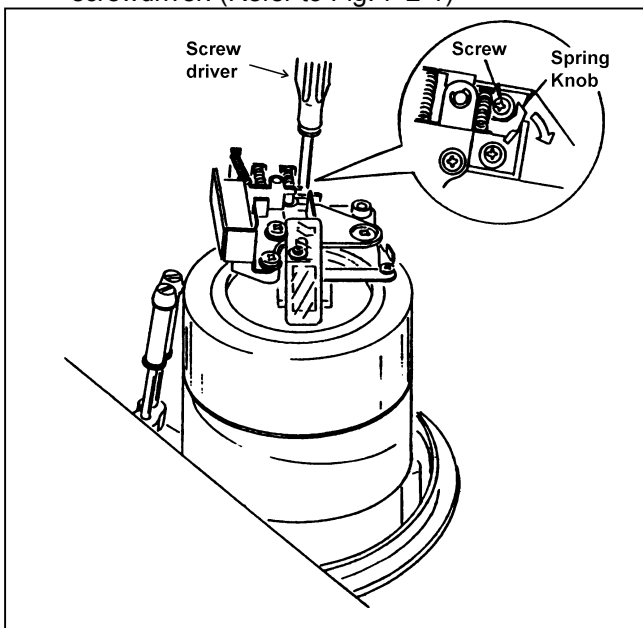

Figure 7-2-1
- ① Remove two screws that are not glued.
- ② One of screws is under of the spring, so pull the spring knob and makes space to insert a screwdriver. (Refer to Fig. 7-2-1)